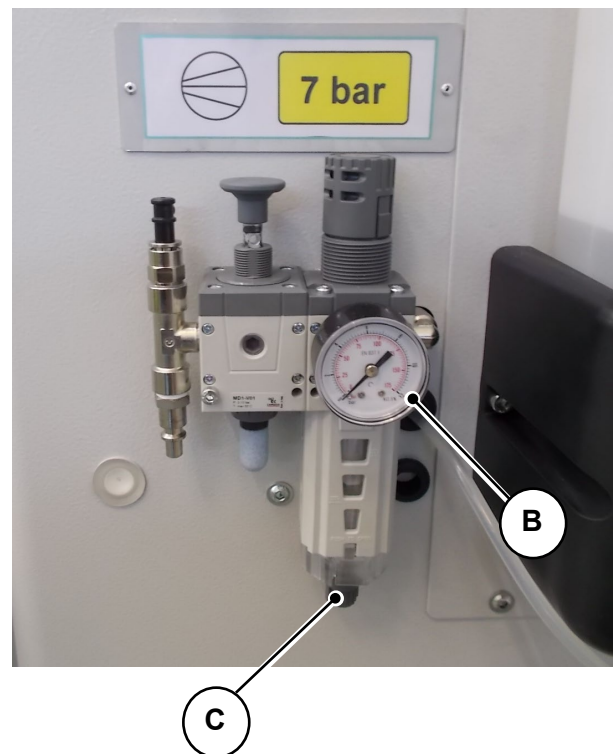

Fig. 09-02
- Check the pressure gauge "B" (Fig. 09-02) to see the air inlet pressure level.
Without disconnecting the air supply pipe, press knob "C" (Fig. 09-02) making sure that the relevant ring nut is open. The condensation is also drained automatically (with the ring open) each time the air inlet hose is disconnected.